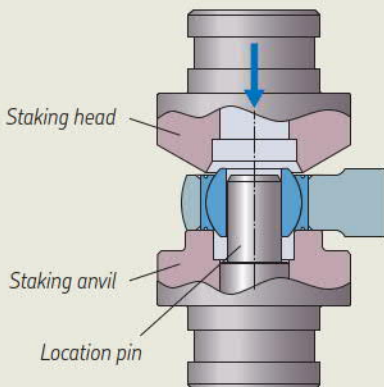

Figure 34
- 5 Replace the lower anvil with a second staking head as shown in **figure 34**. Turn the bearing and housing over, locate the staked groove on the staking head and, applying the staking load, stake the second face.
- 7 If the staking acceptance criteria given in **page 144** are met, continue with the remaining components in the batch at the staking load established in step (3). If requirements are not met, adjust the staking load and repeat from step (4).